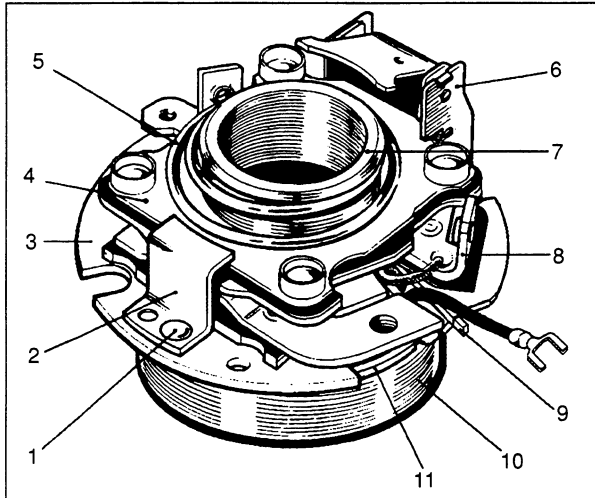

Fig. 10 Solenoid Switch
4.1 ASSEMBLING THE FIXED CONTACT PLATE TO THE SOLENOID COIL (See Fig. 10)